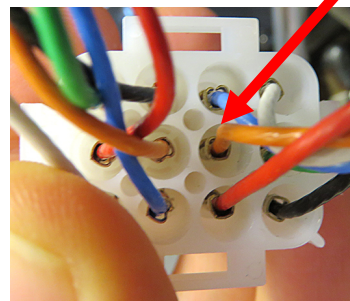

Figure 23
25. Insert the orange wire into Pin 5 (see Figure 23).